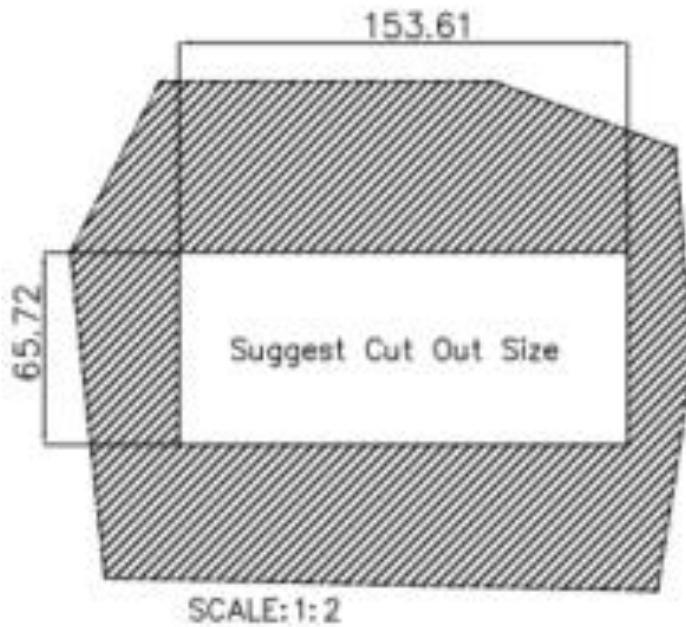
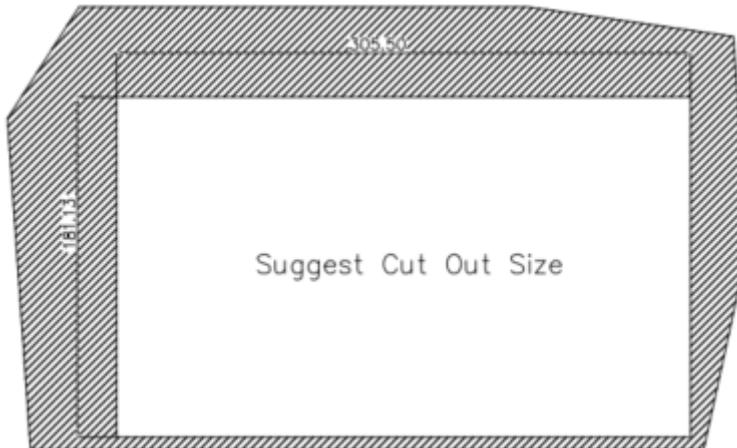

Figure 3-12: PPC2-CW123-EHL Panel Cutout Dimensions
Figure 3-13: PPC2-CW133-EHL Panel Cutout Dimensions
Step 2: Cut out a section of the panel that corresponds to the rear panel dimensions of the PPC2-CW123/133-EHL. The recommended cutout sizes are shown below (**Figure 3-12,Figure 3-13**).